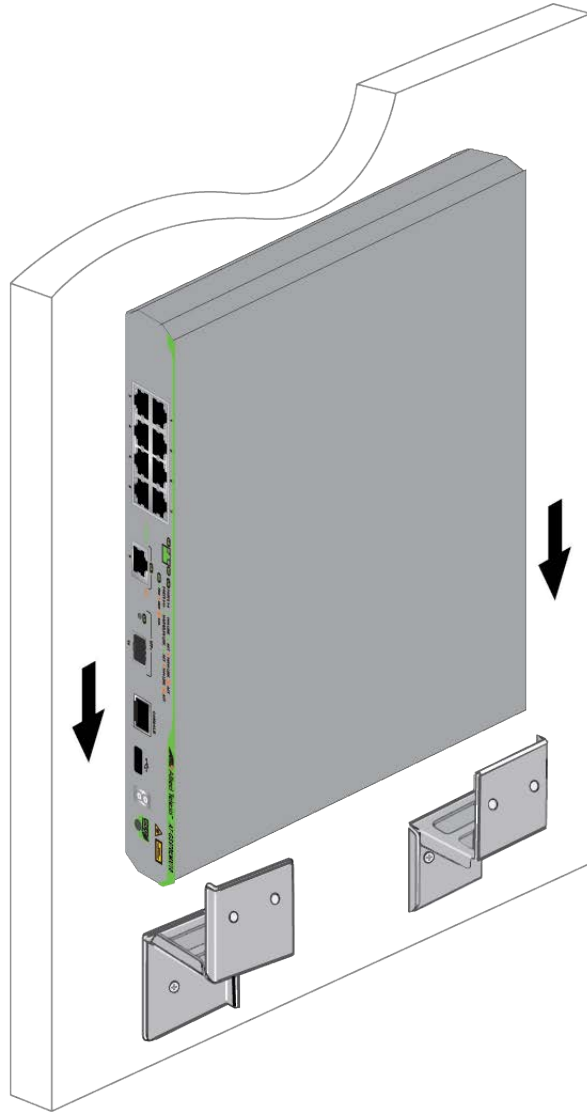

Figure 7. Placing the Switch into the Brackets
9. Slide the switch into the brackets on the wall as shown in Figure 7.